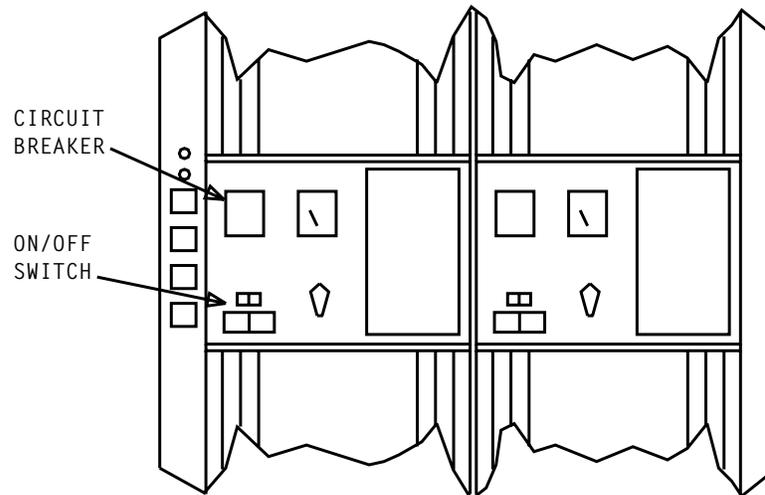

Figure 1. 625B Power Plant - Front View
4. Select a converter and set the **ON/OFF** switch to the **ON** position per Figure 1.
5. Set the converter circuit breaker to **ON** position per Figure 1.